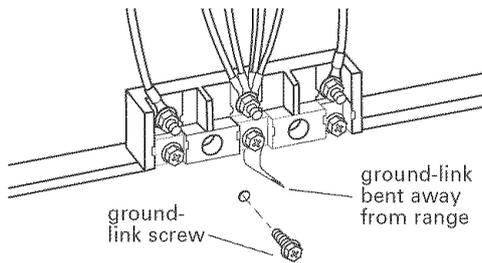

Figure 1
7. Remove the ground-link screw from the range frame. Save the ground-link screw. Bend the ground-link away from the range so that it does not contact the range. See Figure 1.